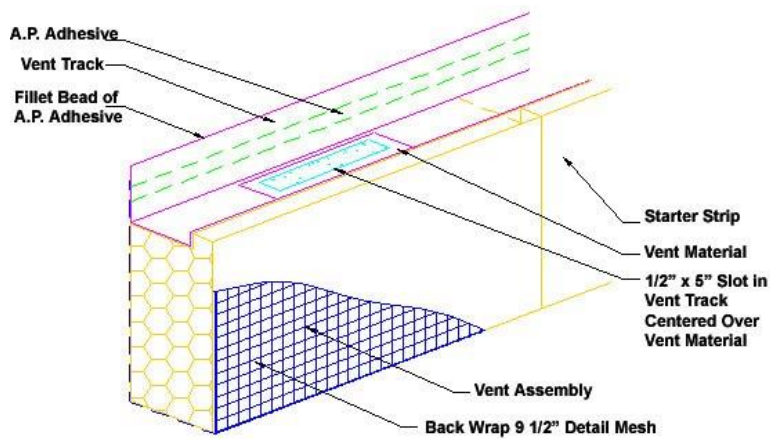

Fig. 21
7. on the wall side of the vertical nailing flange of the track and position over the Dryvit Starter Strip. When installing the Dryvit Vent Track the cut out (slot) must be located directly above the Dryvit Vent Assembly – Figure 21. Press firmly against the substrate to ensure firm and continuous contact between the adhesive and the wall surface. NOTE: It is recommended that the surface of the Drainage Track and Vent Track be lightly sanded to improve adhesion of Backstop NTX or AquaFlash.